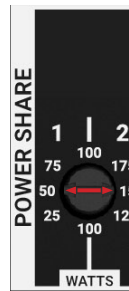

Fig. 8
- **Fig 8** - CLA202 Power Share selections arrow pointer is set to CH 1 50W (70V) / CH 2 150W (4Ω)